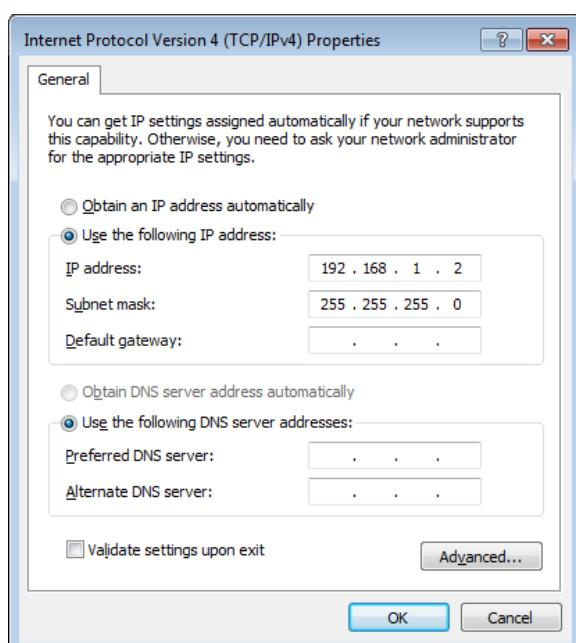

Figure 1.14. Static IP configuration of PC
- Use one of the network cards and set it to static IP in TCP/IPv4 using the IP address **192.168.1.n**, where **n=[2..9]** and the mask **255.255.255.0**, see Figure 1.14 (go to **Control Panel → Internet Options → Network and Internet → Network and Sharing Center → Local Area Connection → Properties**).